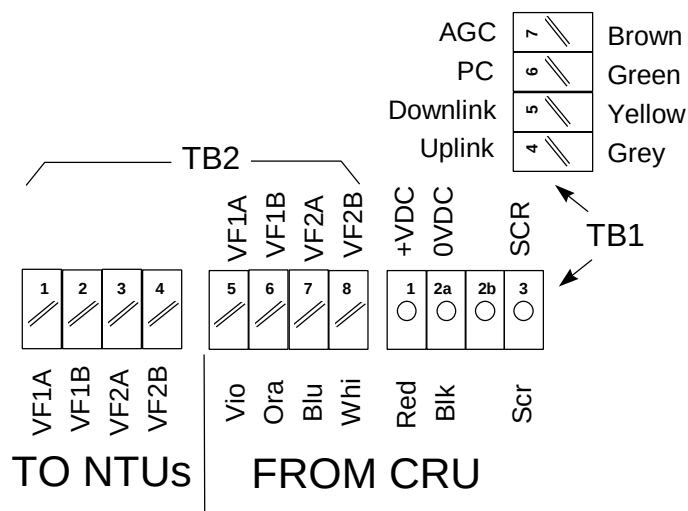

Figure 24. ST-V2 Drop Cable Connections to Type-4 PSU
- At the PSU punch down the wires of the drop cable, to the IDC terminal blocks (TB1 & TB2) using an Auto Trim Termination Tool and connect the DC and screen to the Wago block. The Figure 24 below, illustrates the connections of the drop cable to the connector blocks inside the PSU. If using 6 pair cut surplus wire and strain relief wires at the butt